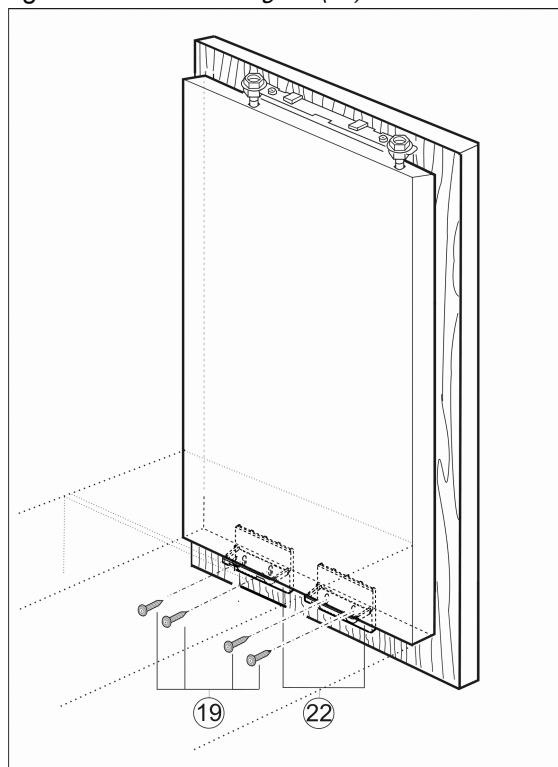

Fig. 21
- ▶ Screw the appliance door to the unit door with screws Fig. 21 (19) through the mounting brackets Fig. 21 (22).